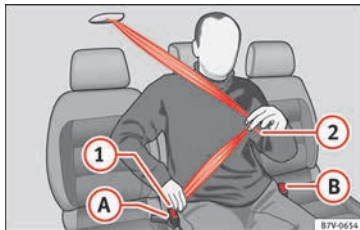

Fig. 90 Fasten the seat belt on the centre seat in the second row of seats
- Use latch plate of the belt » Fig. 90 to pull the seat belt down. Do **not** twist the seat belt when doing so » .
- Use the latch plate » Fig. 90 to pull the seat belt across your lap.
- Press the red button on the buckle » Fig. 90 . The latch plate is released from the buckle.